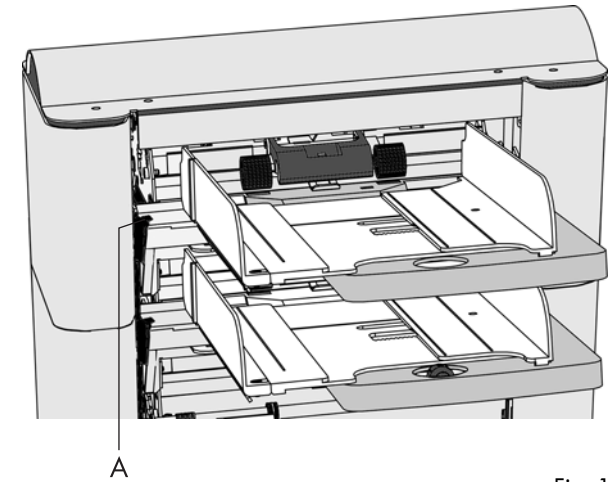

Fig. 13
- push handle A (Fig. 13) downwards.